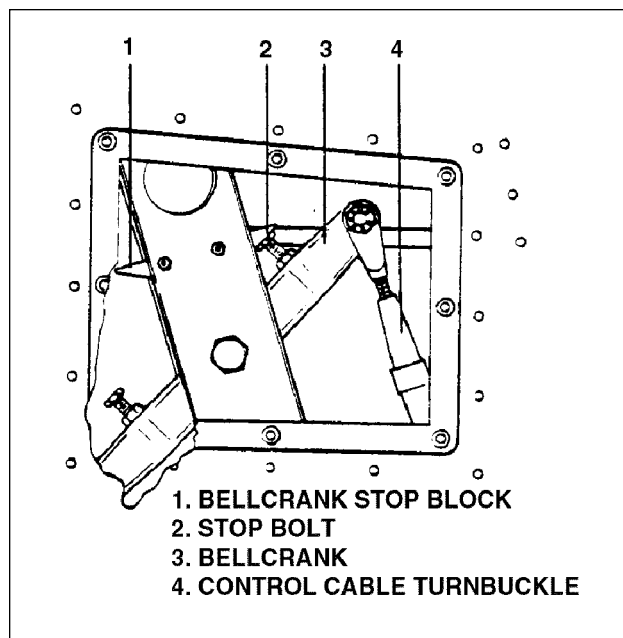

Figure 5-8. Aileron Adjusting Points
- C. Place a bubble protractor on the aileron, perpendicular to the hinge line, and adjust the bellcrank stop bolts to specific aileron travel from neutral (Refer to Table V-I and Figure 5-8.)